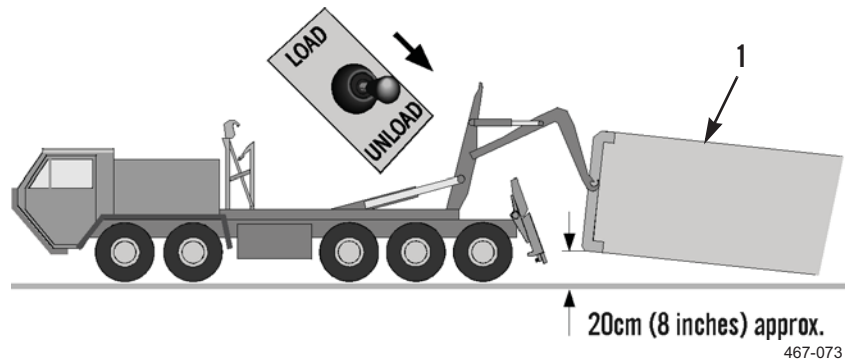

Figure 23. Container Lowered to 8 in. (20 cm) from Ground.
6. When front of container (Figure 23, Item 1) is lowered to approximately 8 in. (20 cm) from ground, return engine to idling speed (PLS: TM 9-2320-364-14&P, HEMTT: TM 9-2320-326-14&P).